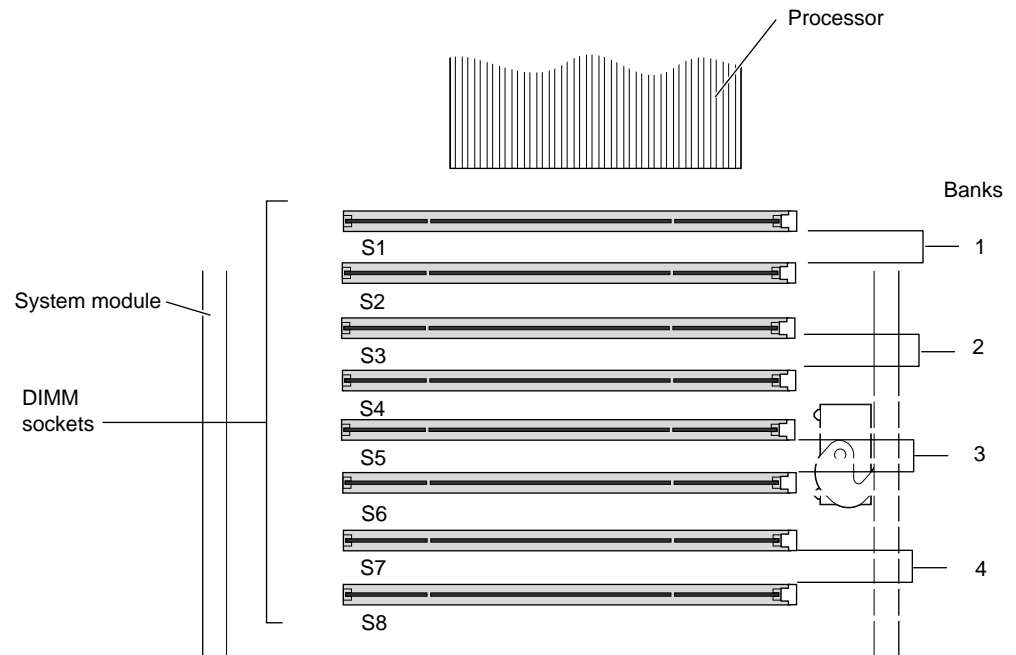
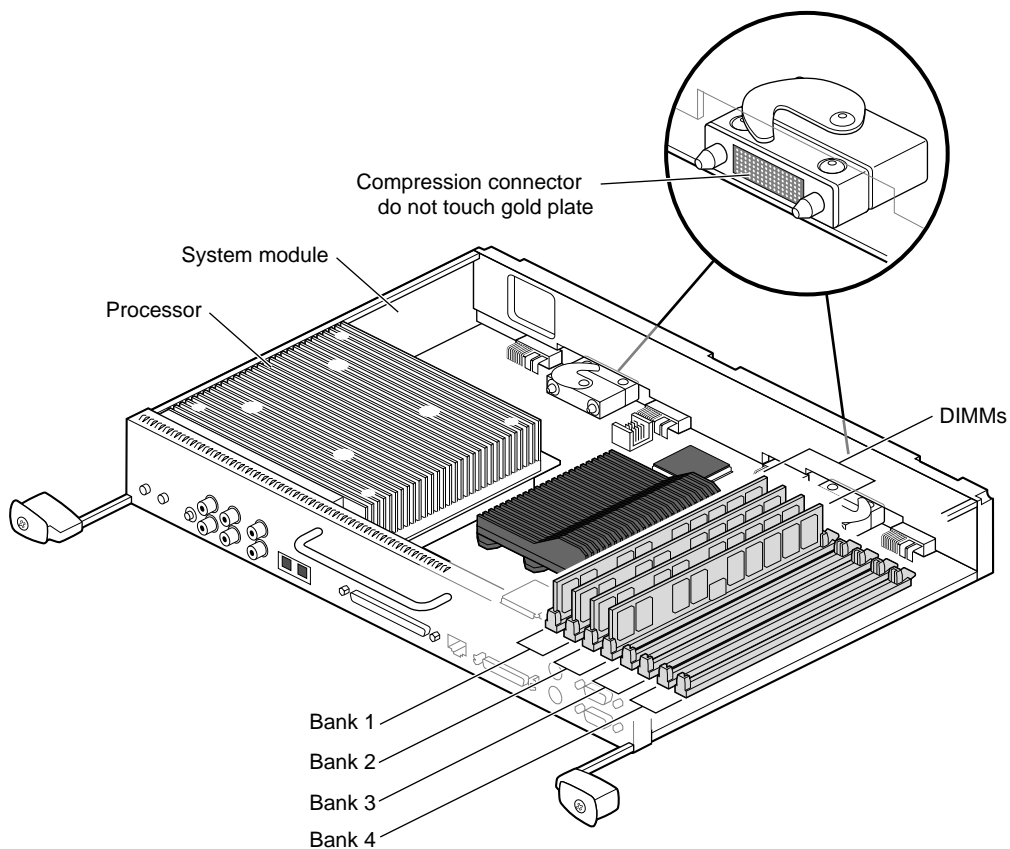

Figure 2-17 Identifying DIMM Sockets and DIMM Banks
Figure 2-18 Locating DIMMs on the System Module
DIMM sockets are labeled between sockets, as shown in Figure 2-17.
1. With the system module lying on a flat, dry, antistatic surface, locate the DIMM banks and sockets as shown in Figure 2-17 and Figure 2-18.